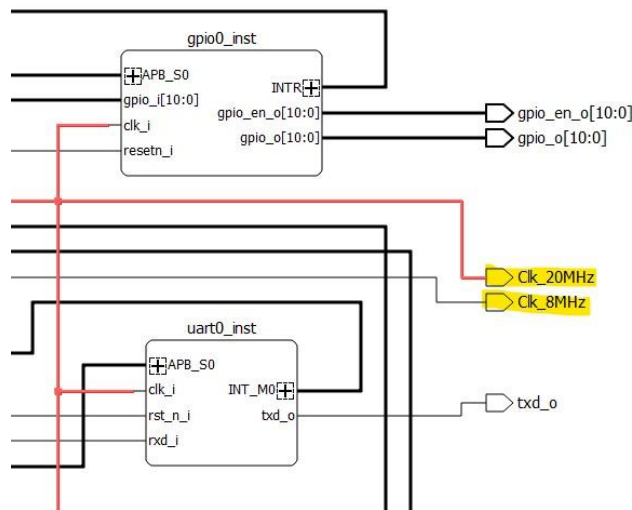

Figure 3.22. Propel Builder – Clock Ports
9. Add an output port named **Clk_20MHz** and connect it to the clock bus that is connected to the peripheral **clk_i** ports to drive additional logic in the top level design (described later in this document) as shown in Figure 3.22.